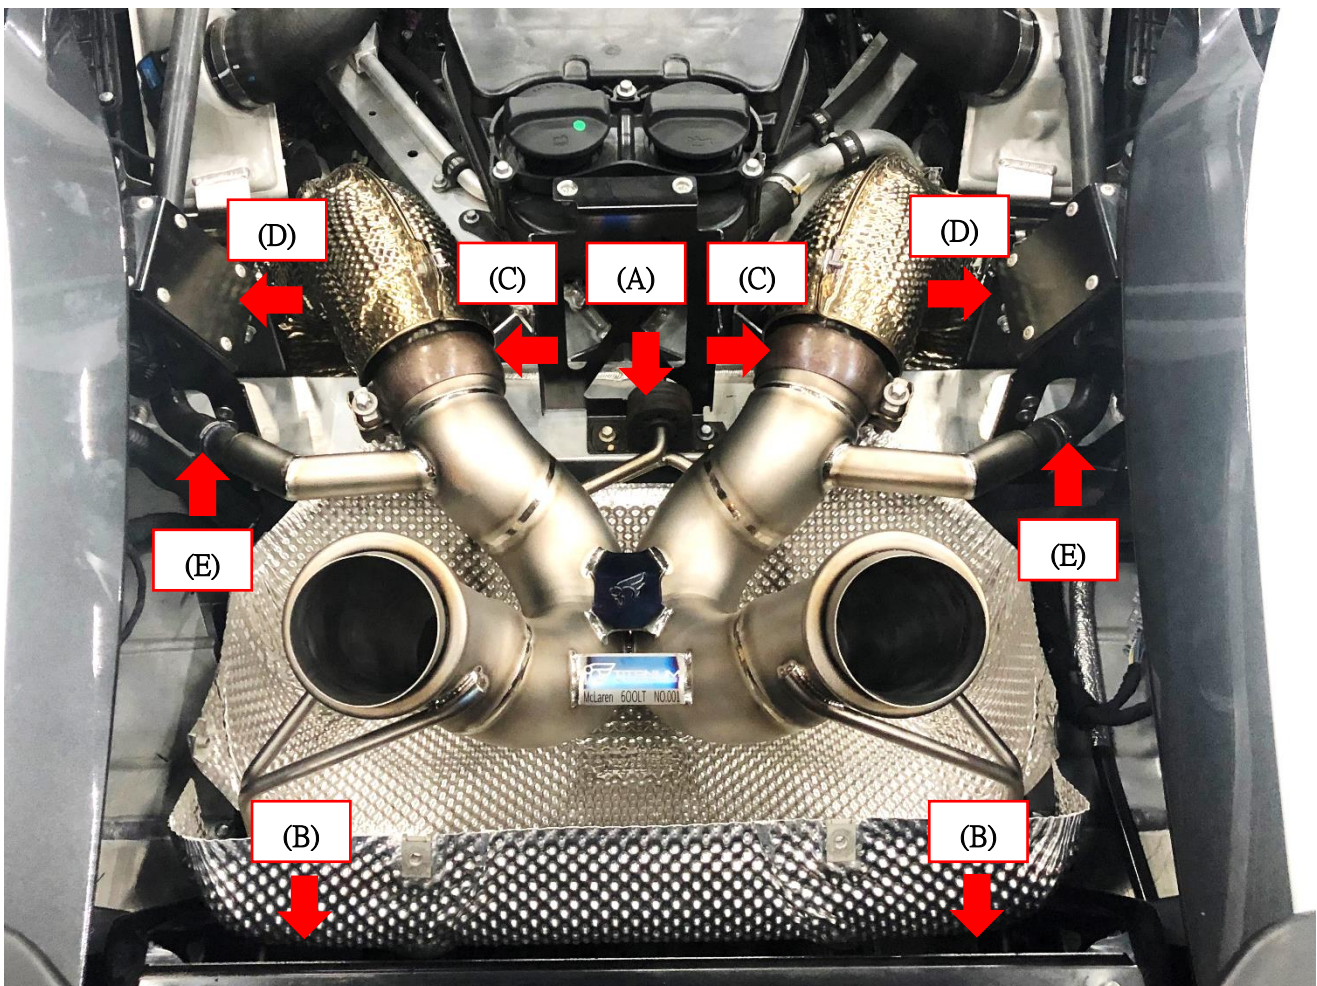

Fig. 13
4. Lock the entryway bushes of the muffler. (Fig 13-A)
5. Lock the gateway bushes of the muffler. (Fig 13-B)
6. Lock the clamps of entryway. (Fig 13-C)
7. The original electronic motor must be tied to the vehicle with a straps to avoid check engine lighting. (Fig 13-D)
8. Connect the rubber tube and lock the ring.(Fig 13-E)